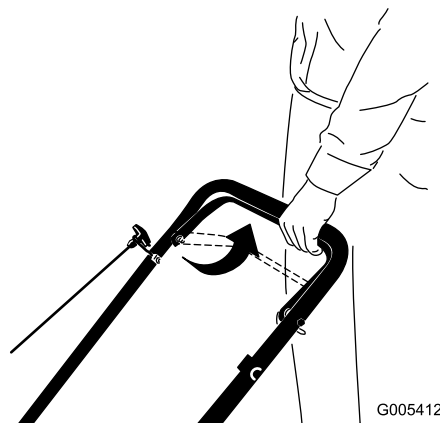
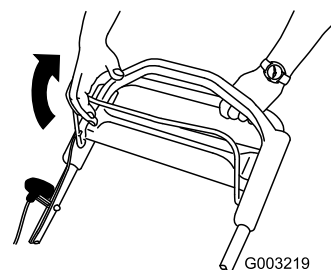

Figure 15
Figure 16
3. Hold the blade control bar against the handle (Figure 15) or (Figure 16).